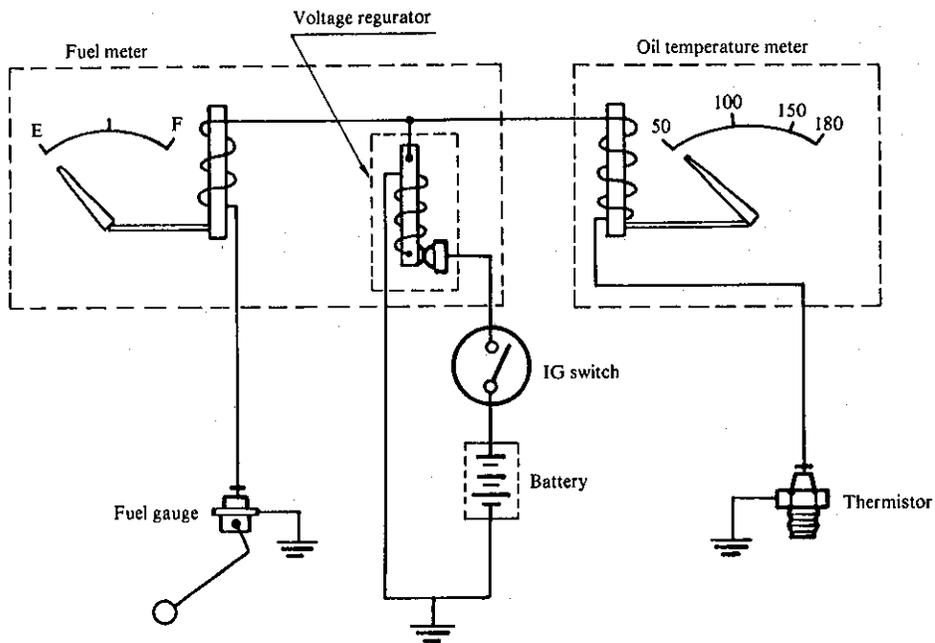

Fig. 13-30.
- As shown in Fig. 13-30, the oil meter is connected in parallel with the same fuel meter used in the GS1000.